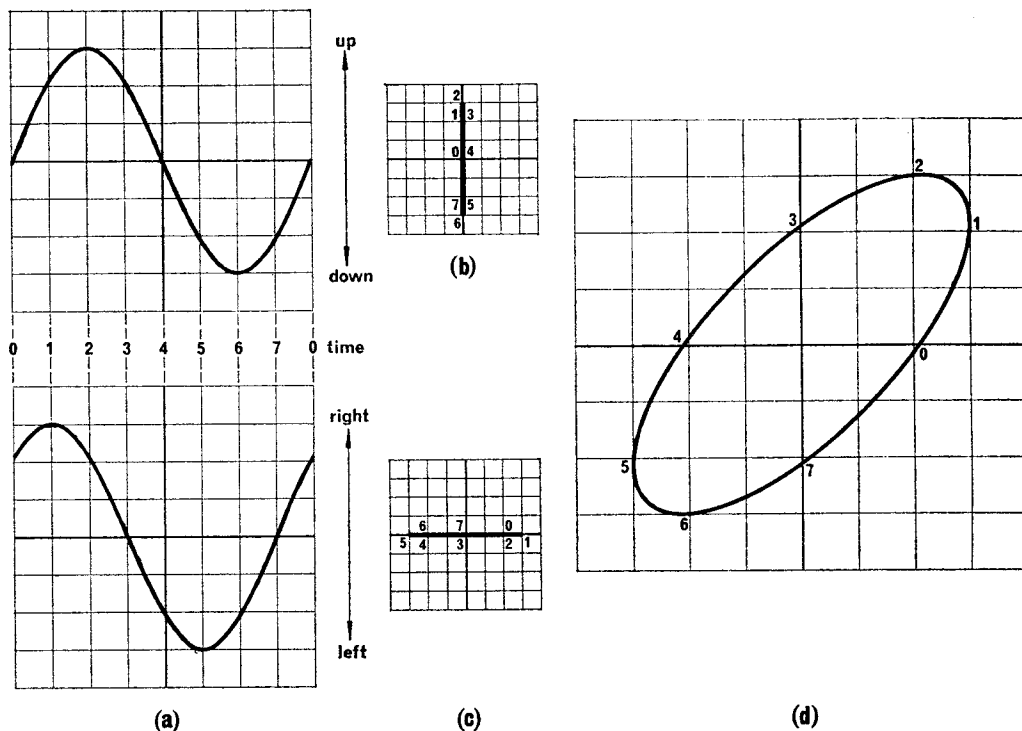
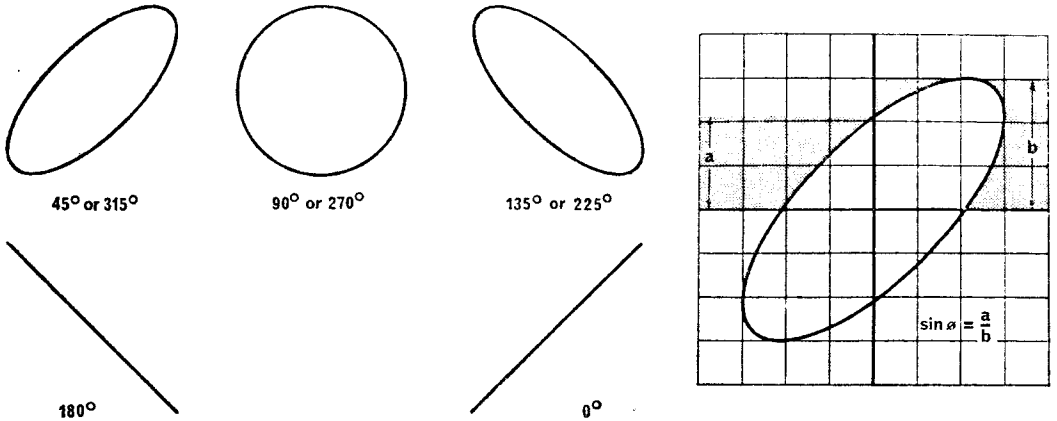

Fig. 7. Formation of a Lissajous figure
Fig. 8. Phase comparison
22. Phase comparison. The method of comparing two waveforms with a phase difference of 45° is illustrated in figure 7. The two waveforms should be displayed normally on Y1 and Y2 to obtain the approximate phase relationship, and to determine which of the waveforms is leading. Disconnect the oscilloscope inputs, and switch off the timebase by turning the time/cm multiplier switch to the EXT position. Adjust the X shift and the Y1 shift controls until the spot on the tube face lies over the centre of the graticule. Apply the input to Y1 and adjust the volts/cm and Y1 gain controls until the trace line on the screen is 3cm either side of the graticule centre line (Fig 7b). Disconnect this input, and apply the other waveform to the Xin/TBout socket. Adjust the X gain control until the trace is 6cm long (Fig 7c). Reconnect the first input to Y1 and the waveform shown at figure 7d will be obtained. This method is most useful at low frequencies as most oscilloscope timebases lose their accuracy at low speeds (e.g. CT436 drops to 15% below 20cm/sec.). The patterns obtained from waveforms with common phase differences are shown in figure 8 and these provide a quick method of checking that the phase relationship is correct; e.g. the inputs to a two-phase induction motor have a 90° phase difference and will produce a circle when applied to the X and Y plates of a scope. The actual phase angle can be measured as shown in figure 8, where θ is the phase angle between the two signals.